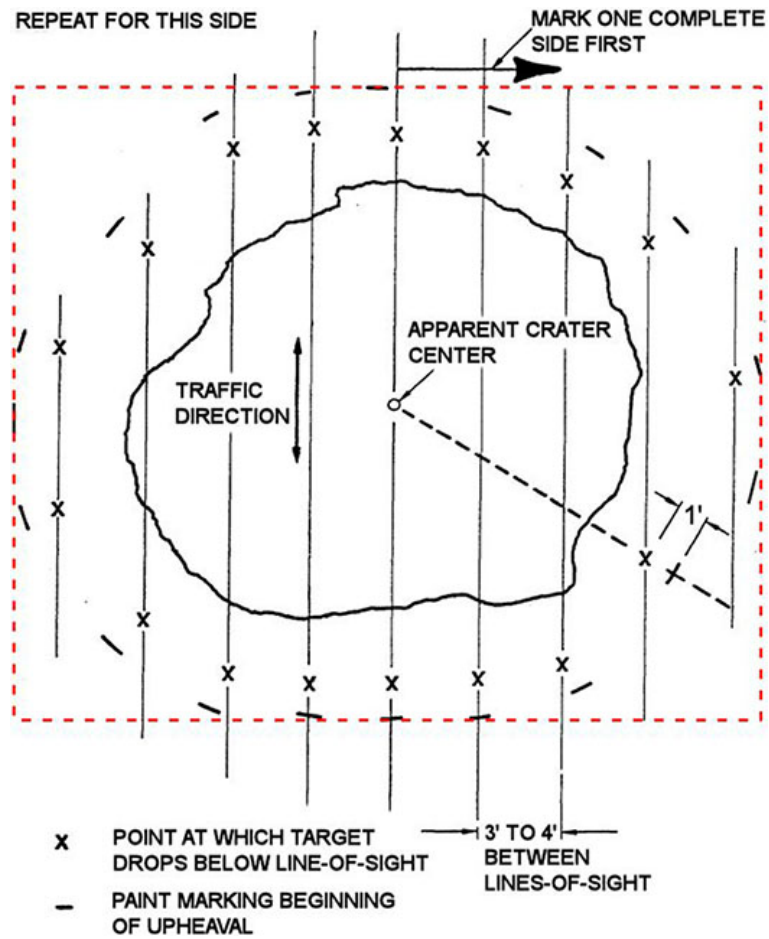
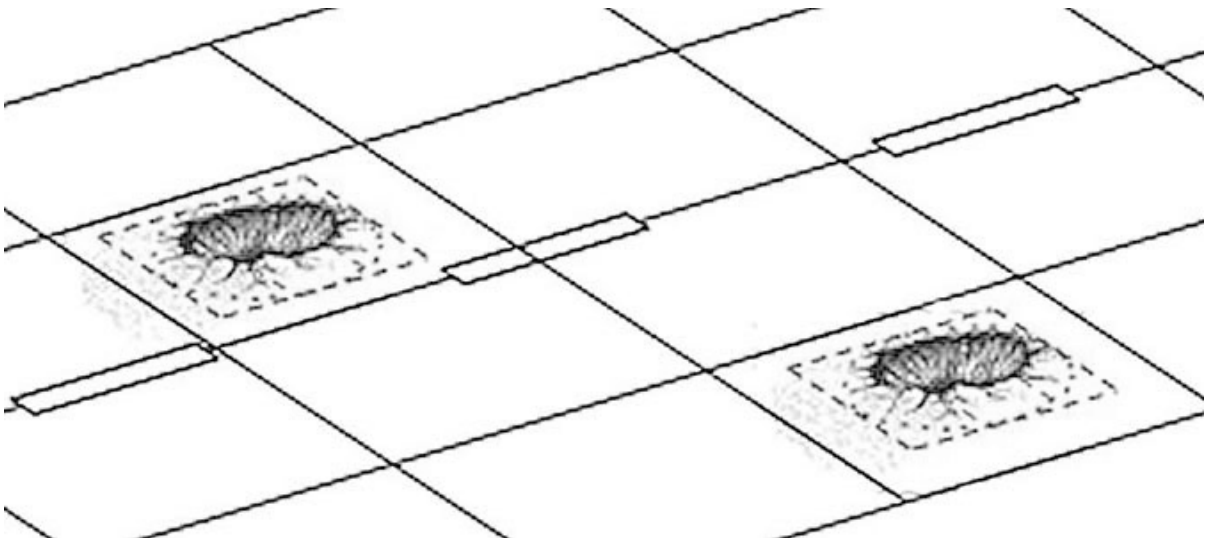
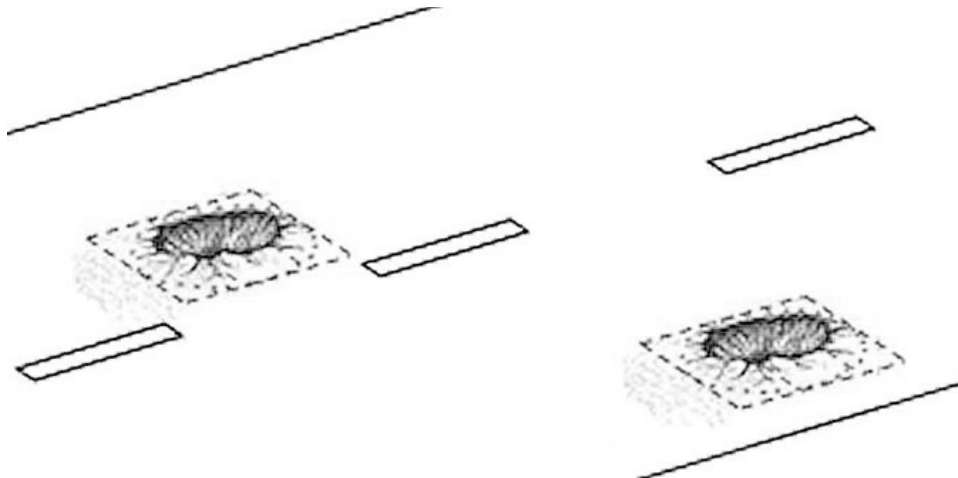

Figure 1-9. Marking upheaval.
Figure 1-10. Pavement cut line orientation on concrete.
Figure 1-11. Pavement cut line orientation on asphalt.
- Rather than marking the upheaval in the shape of the crater, square the pavement cut lines by using the outermost extents of the upheaval markings as shown in figure 1-9. Markings are placed parallel to the adjacent concrete slab joint (fig. 1-10) or parallel and perpendicular to the path of traffic in asphalt (fig. 1-11). It is important to understand that crater location plays an important role in how the repair is made. They can be across a joint (with or without load transfer devices), within 24 inches of a joint or even across multiple joints. Regardless of repair type to be made, it is important to know the basics. Below are your standard repairs within a slab or simply on asphalt.